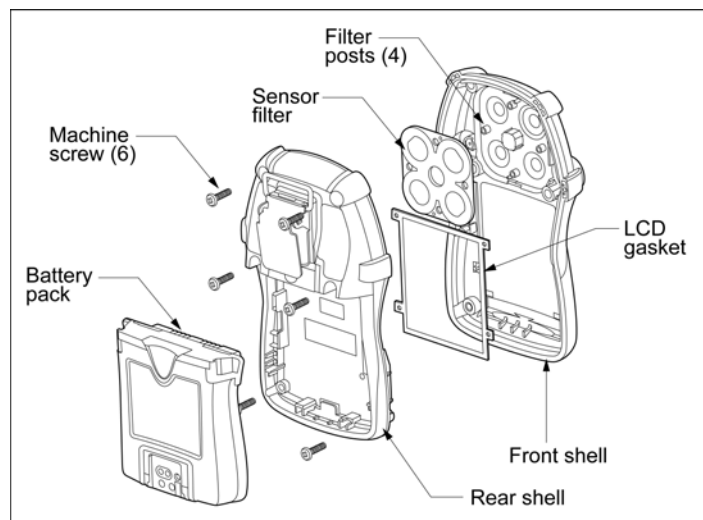
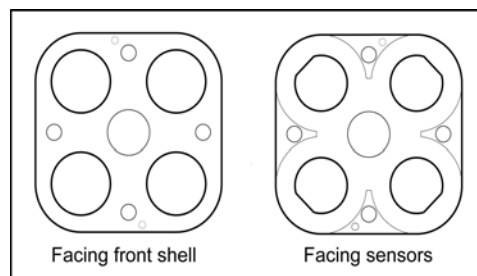

Figure 24. Replacing the Sensor Filter
Figure 25. Inserting the Sensor Filter Correctly
To replace the sensor filter, refer to Figure 24., Figure 25. and the following steps 1-9.
6. Refer to Figure 25. before inserting the new filter. Ensure the filter is laying flat and that the holes are correctly aligned over the filter posts.